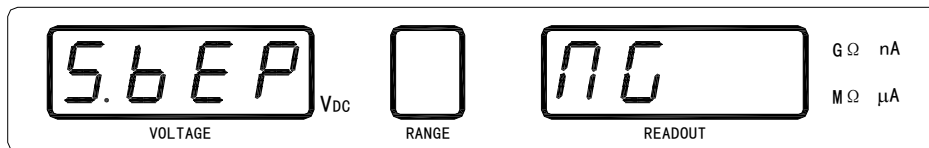

Figure 3-10 Beeper Mode Setup
- 2) Press **▲** or **▼** key to scroll through the main setup items, until “**5.bEP**” is blinking in the voltage window as shown in the following figure 3-10.